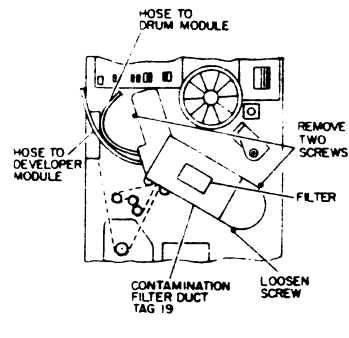

Figure 1. Removing and installing the Contamination Filter
4. REMOVE THE TWO SCREWS ON FILTER COVER (FIGURE 1).